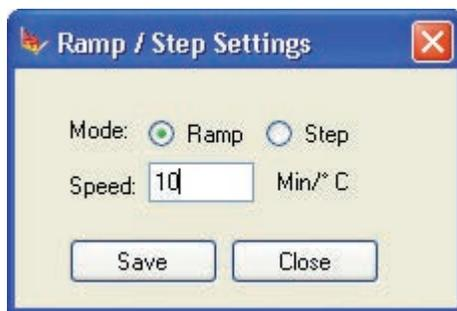

Figure 4.57a: Ramp/Step Settings
- Select the Ramp/Step icon to open the Ramp/Step Setting dialog, Figure 4.57a: Ramp/Step Settings. The Ramp/Step Disable Dialog will open.